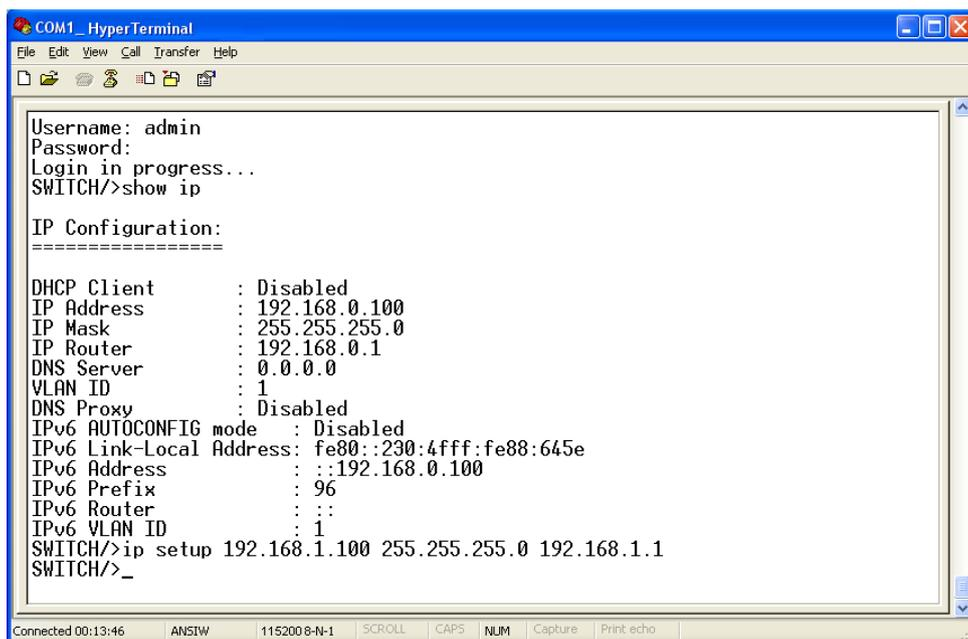

Figure 3: Set IP Address Screen
- On “Switch/> ” prompt, enter the following command and press <Enter>. As shown in Figure 3.